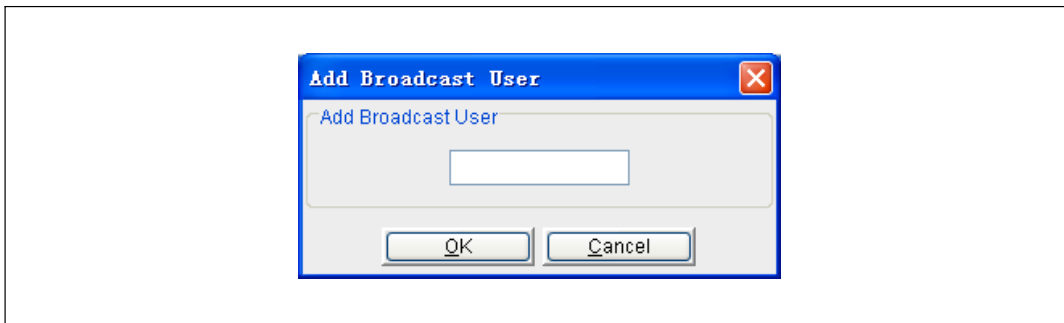

Figure 48. Add Broadcast User Window
- 1 Click **Add** to open the Add Broadcast User window (see Figure 48).